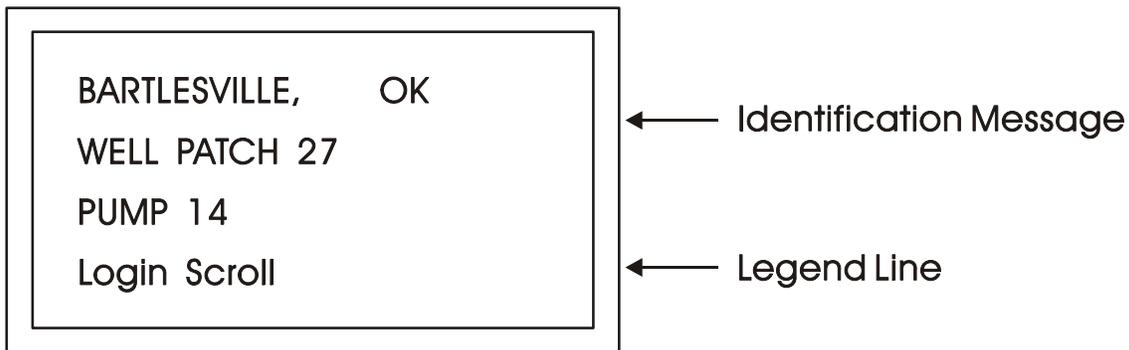

Figure 4-2. Identifier Display
Identifier Display The first display that shows on the screen is the Identifier Display. (See *Figure 4-2.*)
Up to four legends can appear on the legend line. The legend on the far left corresponds to the current function of the **[F1]** key. The current assignment for the **[F4]** key is on the far right. The current use for keys **[F2]** and **[F3]** are described to the left and right of center. When no legend appears, that function key is not active on this screen. For example, in *Figure 4-2* only **[F1]** and **[F2]** are active.
To begin automatic scrolling, press **[F2]** from the Identifier Display (*Figure 4-2*). Variable information appears on the screen and remains there for a period of seconds set by the application programmer. The variable name appears on the first line. The variable value appears on the second line and status information appears on the third line. See *Figure 4-4* for an example of this.
- [F4] Exit** Press Exit [F4] to return to the Identifier Display (*Figure 4-2*).
1. Go to the Identifier Display (*Figure 4-2*) if you're not there already. To do this, press [F4] until you reach the Identifier Display.